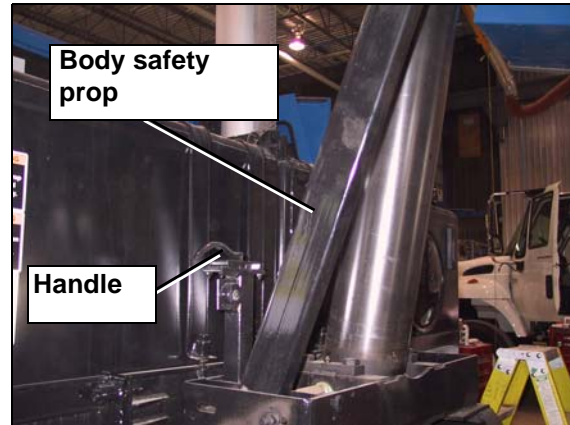

Figure 6. Body safety prop
3. Slowly lower the body so it rests properly on the prop (see Figure 6. "Body safety prop").